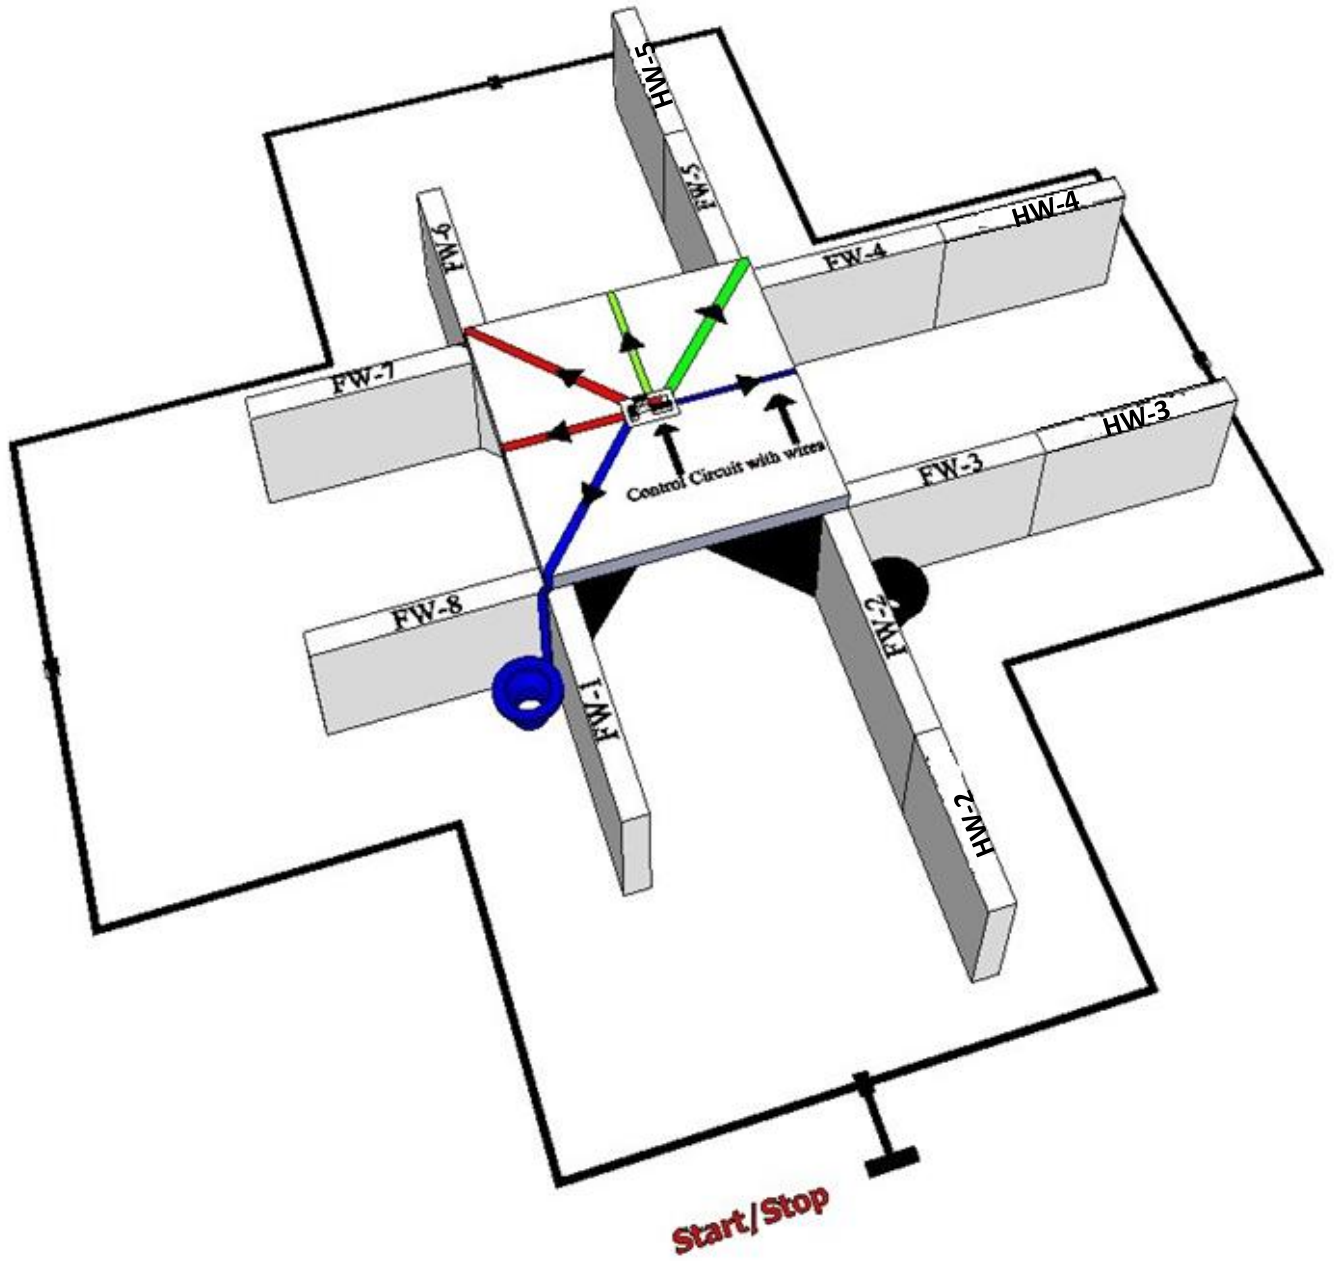

Figure 9: Wall Configuration According to Table 2.
- A **Fixed Wall (FW)** is made up of 2 **Half Walls (HW)**.
- **Central Walls CW - 1 to 6** - are fixed walls which are placed exactly at the center of the arena. The Ceiling of the Central Walls as shown in Figure 9 holds the LED Array and also its control circuit.
Stick all the 14 fixed walls and the Ceiling permanently to the arena using double-sided tape or any other suitable adhesive. After this step the arena should look like that in Figure 9. (Note that on the flex design walls are marked on the appropriate wall section for each Pipeline Area.)
- Figure 9 maps the above Wall Configuration table.